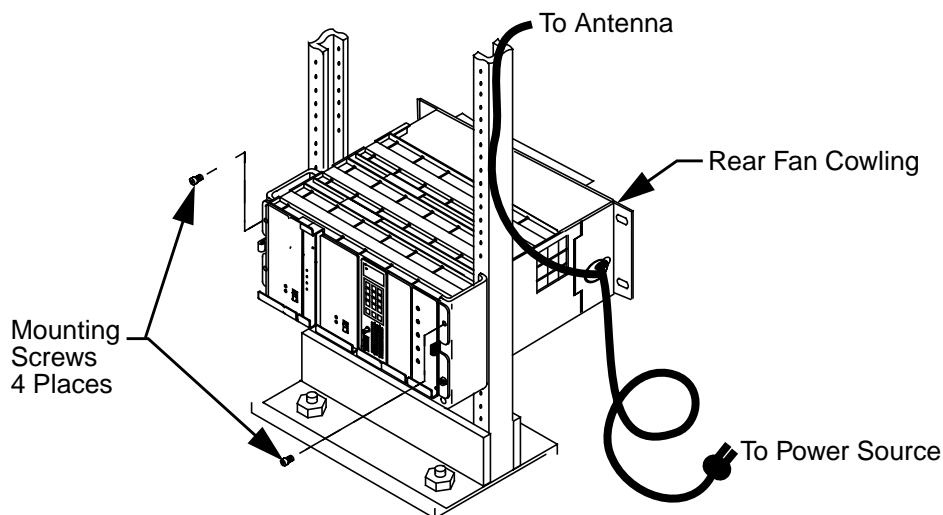

Figure 4-6: Standard Paging Station Mounted In Equipment Rack
- f. Insert four M6x1.0 tapping screws (two on each side), using a TORX screwdriver and TX 30 bit (see Figure 4-6).
- h. At the rear of the equipment racks, place the rear fan cowling in position over the rear of the station (see Figure 4-6).